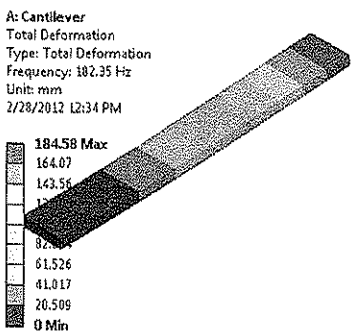

Figure 10-21 First mode shape
6. Select **Total Deformation** under the **Solution** node in the **Tree Outline**; the first mode is displayed in the **Graphics** screen, as shown in Figure 10-21.